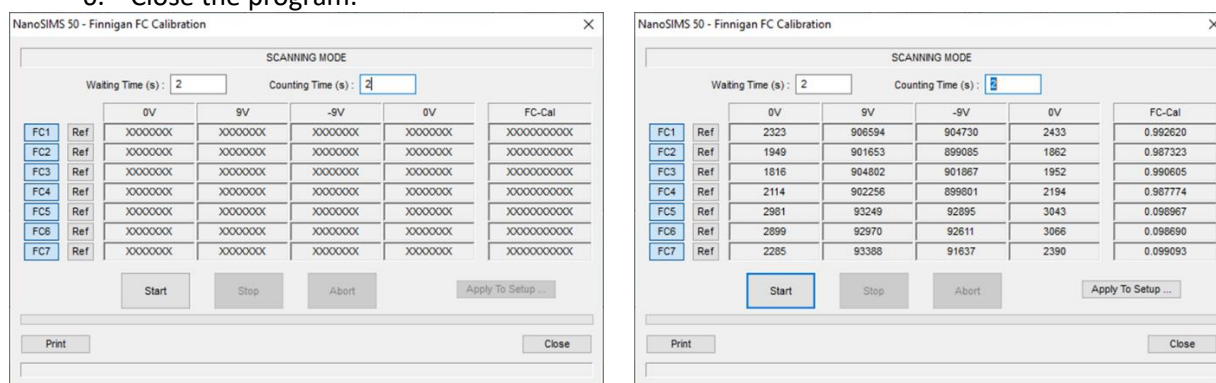

Figure 396: FC calibration program before (left) and after (right) calibration.
1. Open the “FC Calib” program (Figure 396).